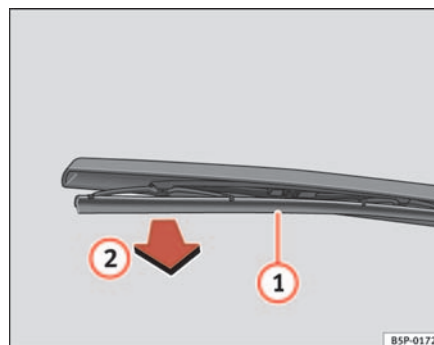

Fig. 166 Changing the rear window wiper blade
- Lift the wiper arm away from the glass ⇒ fig. 166.
- Unclip the wiper blade ① and pull ② ⇒ fig. 166.